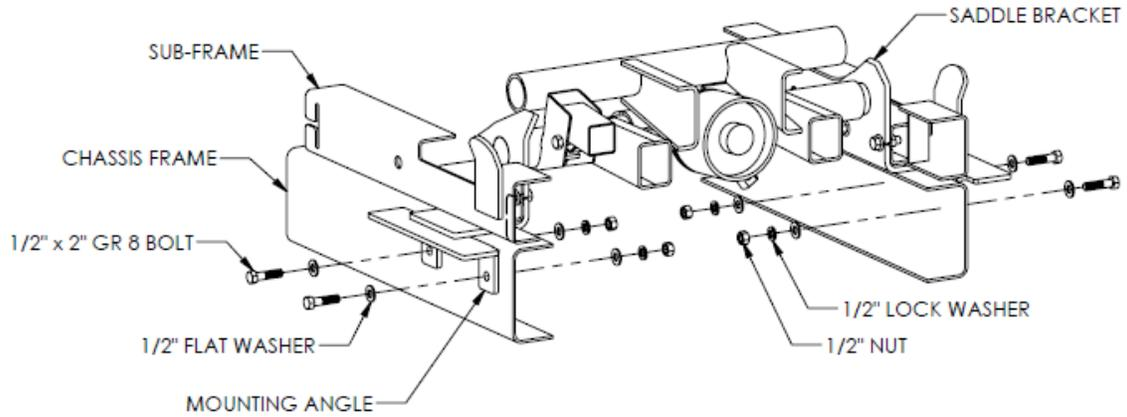

FIGURE 5
4. Position a mounting angle under each saddle flat located on each side of the sub-frame. Secure each mounting angle to the truck frame by drilling two $17/32$ " Dia. holes and bolting the mounting angles to the truck frame using two $1/2$ " x 2" GR 8 bolts, four flat washers, two lock washers and two nuts. (Figure 5).